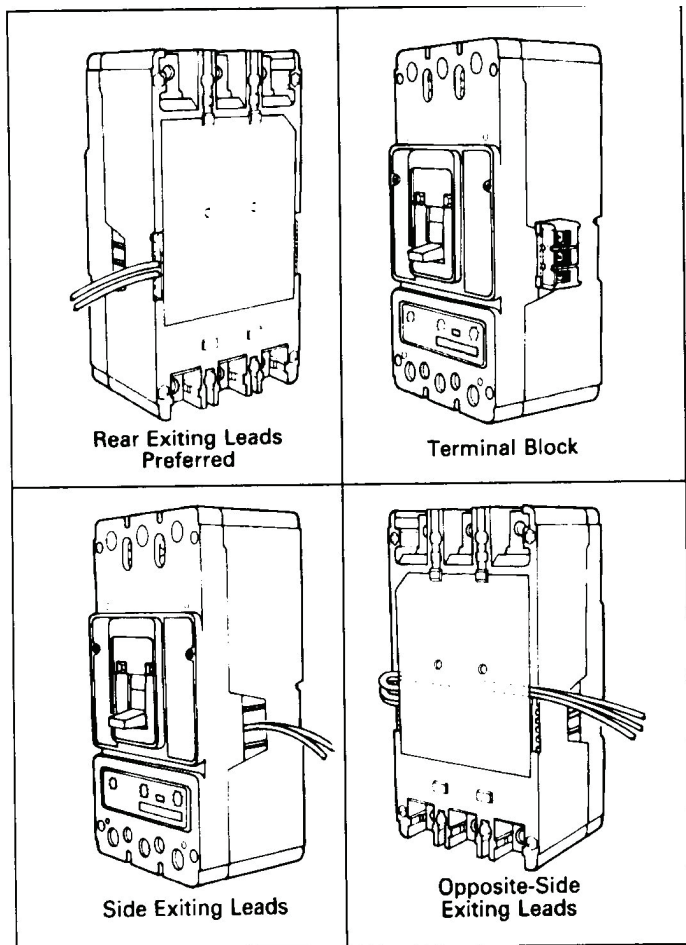

Fig. 2-2 Accessory Wiring Options
- 2-4. Route wiring to meet installation requirements. (see Fig. 2-2.)